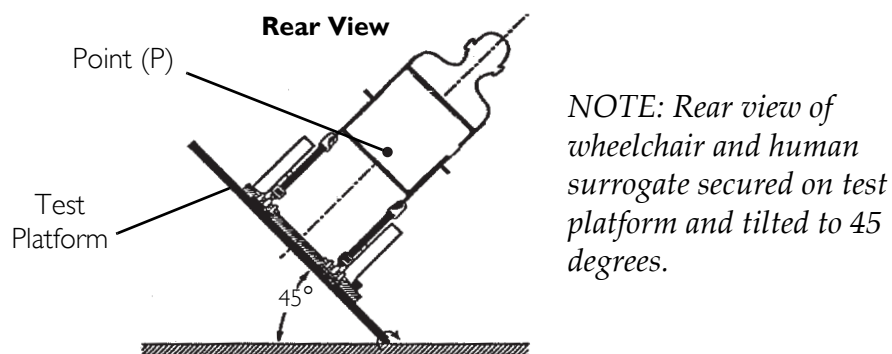

FIGURE 12.2 Vehicle-Anchored Belts
NOTE: For this procedure, refer to FIGURE 12.2.
The test for Lateral Stability Displacement for Point (P) is shown in FIGURE 12.2. The average test result for point (P) is 0.77-inches (19.6 mm).